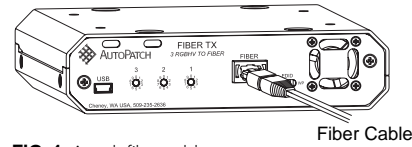

FIG. 4 Attach fiber cable
- Insert the MTP/MPO plug on one end of the fiber cable into the Fiber (MTP/MPO) jack on the front of the TX (FIG. 4).